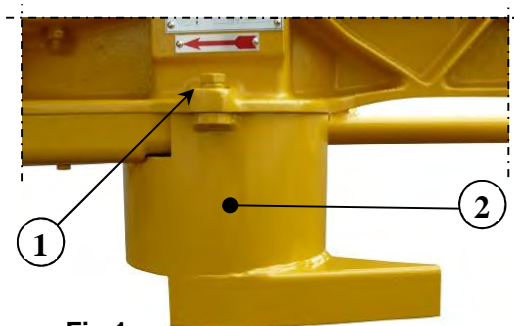
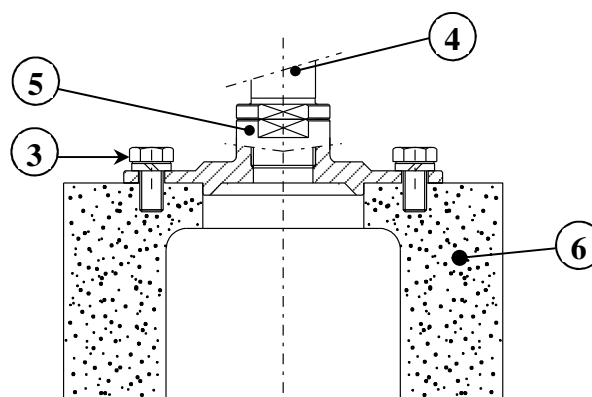

Fig.1
Fig.2
- Lower the wheel as far as it will go (flywheel anti-clockwise direction), then disassemble the wheel casing Item ② by unscrewing the 2 screws Item ① (17 wrench) (see fig.1).
- Lock in place the spindle Item ④ using a 23 open-end wrench, then unscrew the “wheel+wheel-holder” assembly using a second 23 open-end wrench.
- Separate the wheel Item ⑥ from the wheel-holder plate Item ⑤:
- **assembly Fig.2** → Unscrew the fastening screws Item ③ (13 open-end wrench).
- **assembly Fig.2** - Position the wheel Item ⑥ so that its inner \varnothing bears on the shoulder of the wheel-holder plate Item ⑤. Place the fastening screws Item ③ on the wheel Item ⑥ and bring them up until they touch. Then tighten their screws.